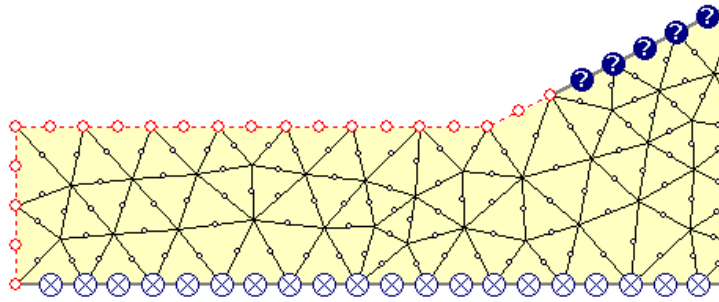

Figure 8-2: Assigning boundary conditions (selected segments).
5. Click on the THREE segments of the external boundary indicated in Figure 8-2. (ie. the left edge of the external boundary, and the two segments at the toe of the slope)